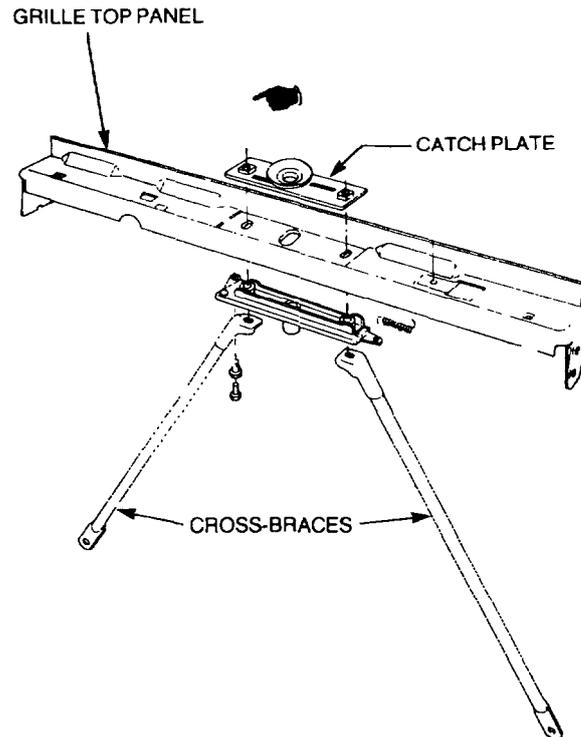

Figure 12 Bonnet Catch
- gg.** Position the grille panel and grille top panel between the mudguards and secure them with the bolts and washers. Position the catch plate on the grille top panel (Figure 12).